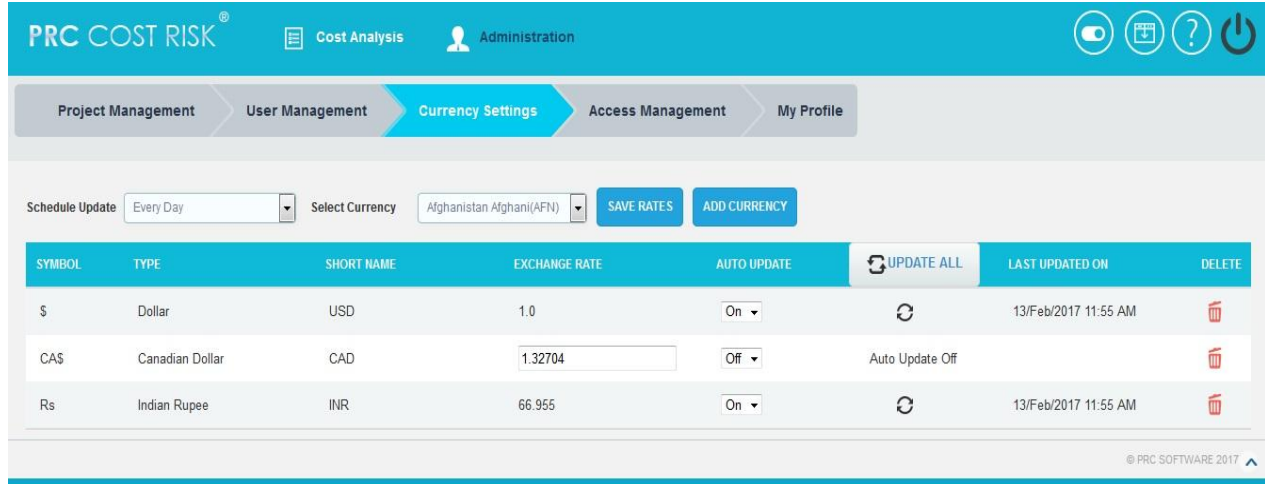

Figure 1.26
2. Click the **UPDATE ALL** button to update all the currency details. (Figure 1.26)
2. Click the **Update** icon to update each currency details separately. (Figure 1.26)